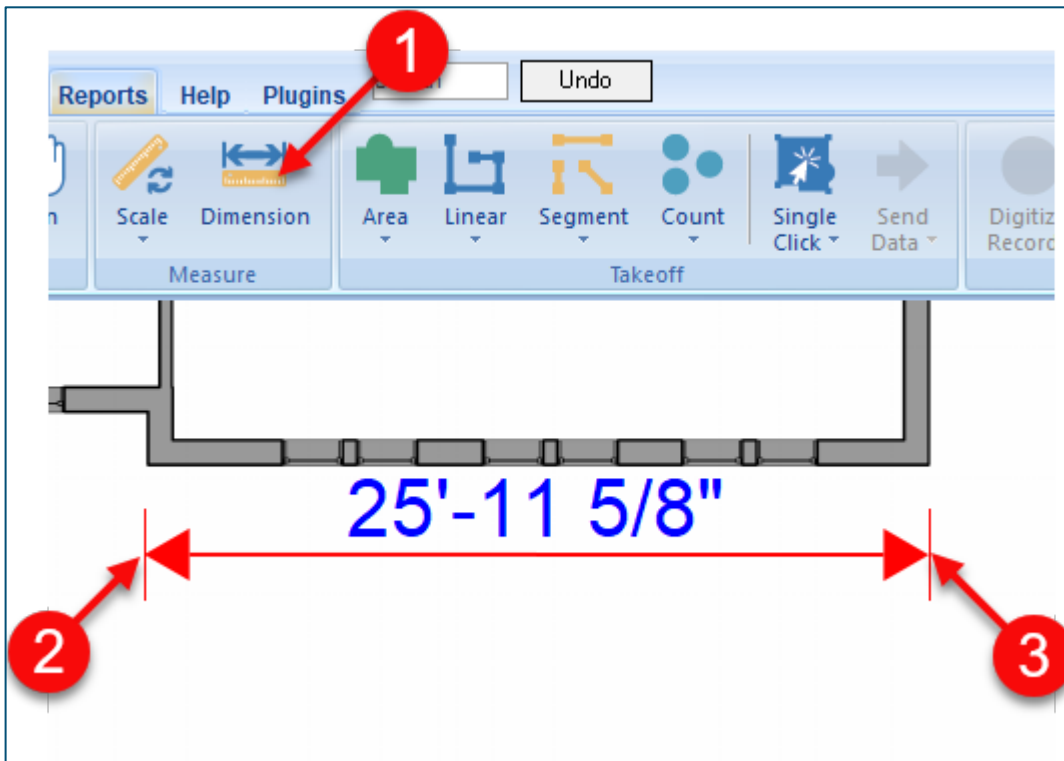

Figure 25-A
1. To add a dimension for a section of a building, click on the **Dimension** button on the **Home** tab ribbon-bar (Fig. 25-A).
1. To specify a dimension, click on the **Dimension** button on the **Home** tab ribbon-bar (Fig. 25-B).